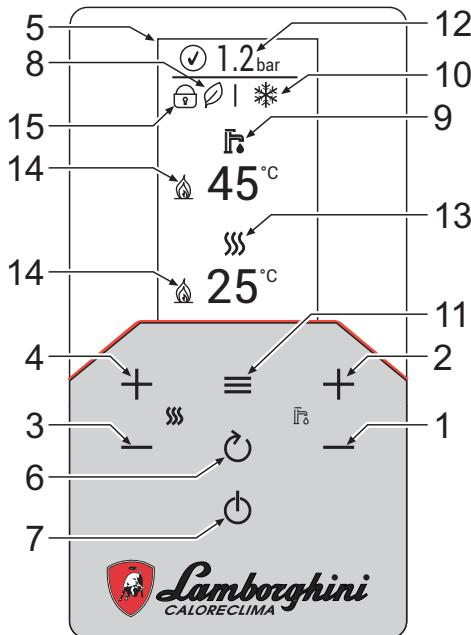

fig. 1- Control panel
### Panel legend fig. 1
Repeatedly press button (1) until the summer symbol (sun) appears, and with the word "OFF" for heating (part 10 - fig. 1): the boiler will only deliver domestic hot water. The frost protection system remains on.
Use the heating buttons (parts 3 and 4 - fig. 1) to adjust the temperature from a minimum of 20°C to a maximum of 80°C. The maximum value can be changed in the **parameters menu** [TSP] via parameter P40.
Use the DHW buttons (parts 1 and 2 - fig. 1) to adjust the temperature from a minimum of 40°C to a maximum of 55°C. The maximum value can be changed in the **parameters menu** [TSP] via parameter P46.
The **COMFORT** function can be disabled by the user (**ECO** mode) by pressing the button  for 2 seconds. In **ECO** mode the display activates the symbol  (detail 12 - fig. 1). To activate **COMFORT** mode, press the button  again for 2 seconds; the symbol  disappears